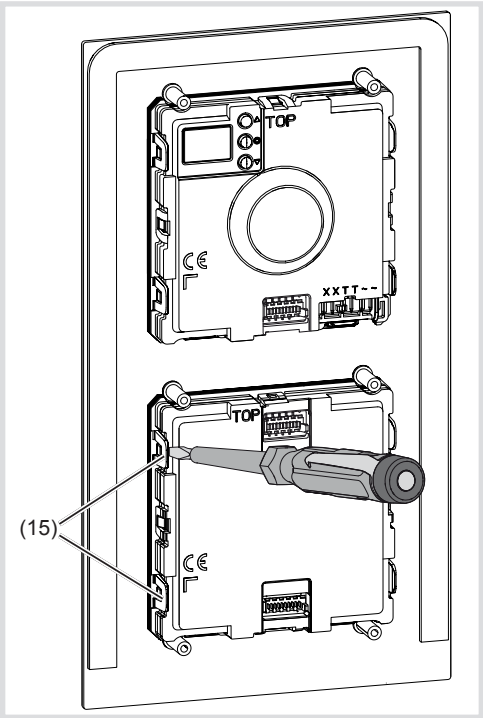

Figure 13: Unlatching module
- Pull off connection terminal block (11) on the device.
- To remove the call push-button module, unlatch the side retaining brackets (15) of the module mounting by carefully lifting up with a screwdriver (Figure 13).